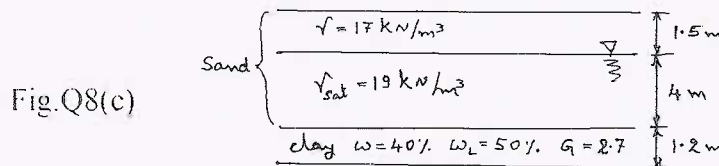

Fig.Q8(c)
c. Calculate the primary consolidation settlement of the clay layer shown in the fig.Q8(c) , if the increase in effective stress is  $15 \text{ kN/m}^2$  at the centre of clay layer. (06 Marks)